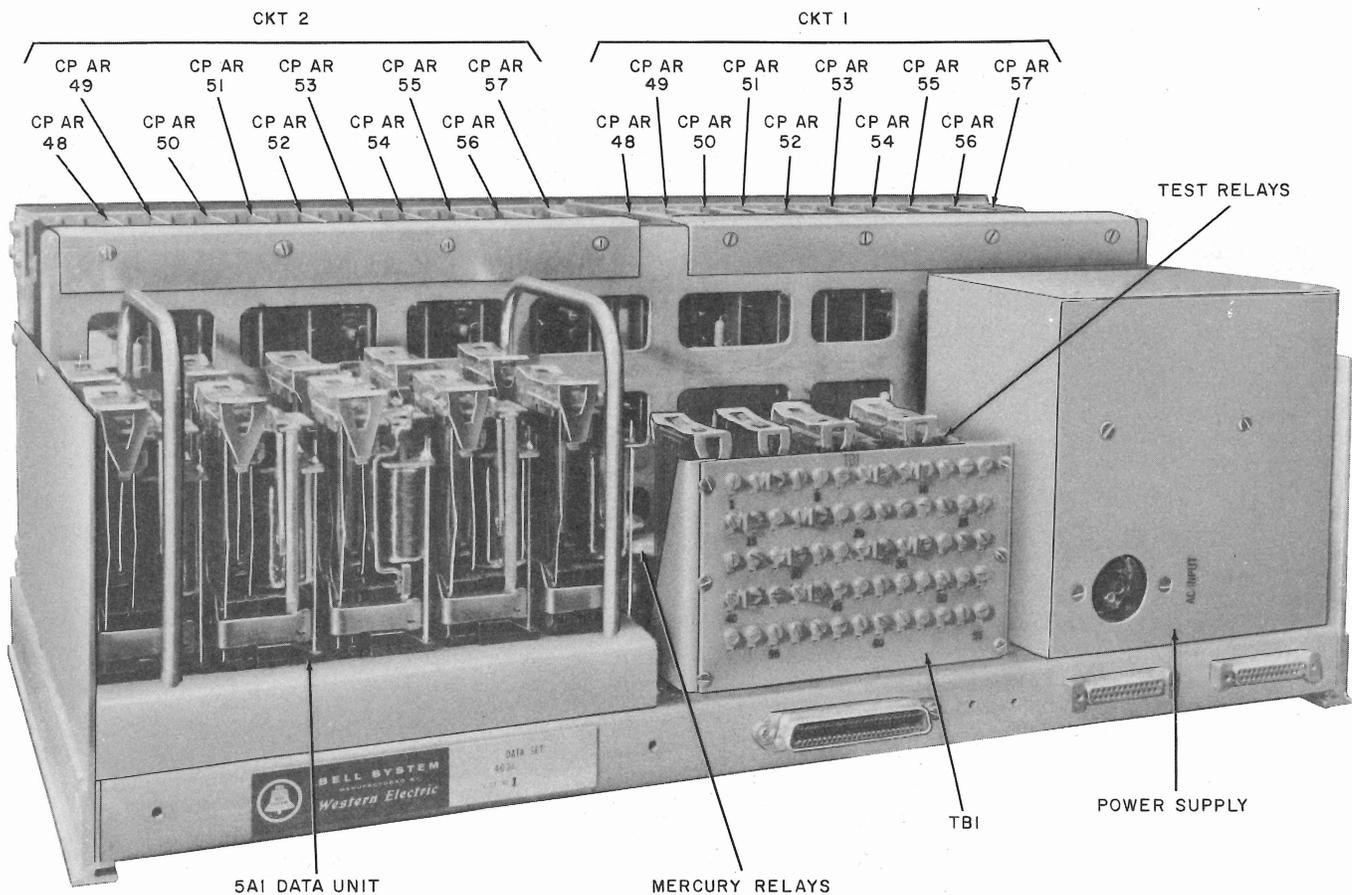

Fig. 5—Data Set 403A-Type, Rear View With Cover Removed Showing Internal Components
- (1) Internally Data Set 403A-type contains 10 circuit pack boards for each receiver, a power supply, four test relays, two or four mercury relays, and a plug-in 5A1 Data Unit (Fig. 5), if required. There is also a terminal board (TB1) at the rear of the data set and a smaller terminal board at the bottom of the 5A1 Data Unit for option strapping. The circuit pack boards contain the following circuitry: